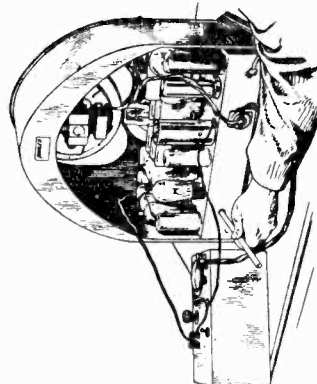

Fig. 1
1. Make the necessary connections between the oscillator and the receiver as shown in the illustration, Fig. 1. The connections consist of (a) the ground wire to the GND. terminal of the radio set and to the G terminal of the oscillator; (b) the A terminal of the oscillator to the grid of the first detector tube (tube shield in place and first detector grid clip removed), (c) output meter terminals to the primary of the output transformer (this connection is obtained at the speaker plug and socket through the Philco plug-in adapter, part 6085), (d) power cord of receiver to the electric power outlet after all other connections have been completed.